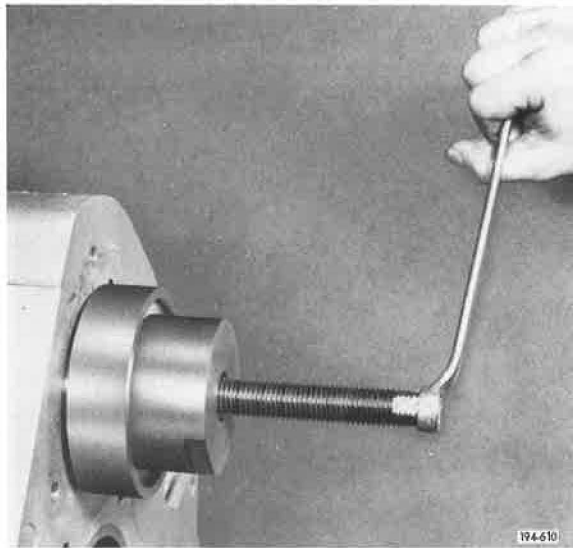

Figure 5-729. Tightening Puller
18. Tighten threaded shaft of the puller until bearing is removed from rear countershaft. See Figures 5-729 and 5-730.